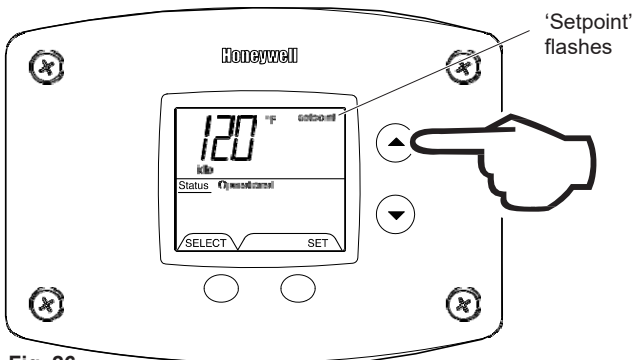

Fig. 26
2. 'Setpoint' indicator begins flashing in the display after pressing 'Temperature Up' button (Fig. 26).